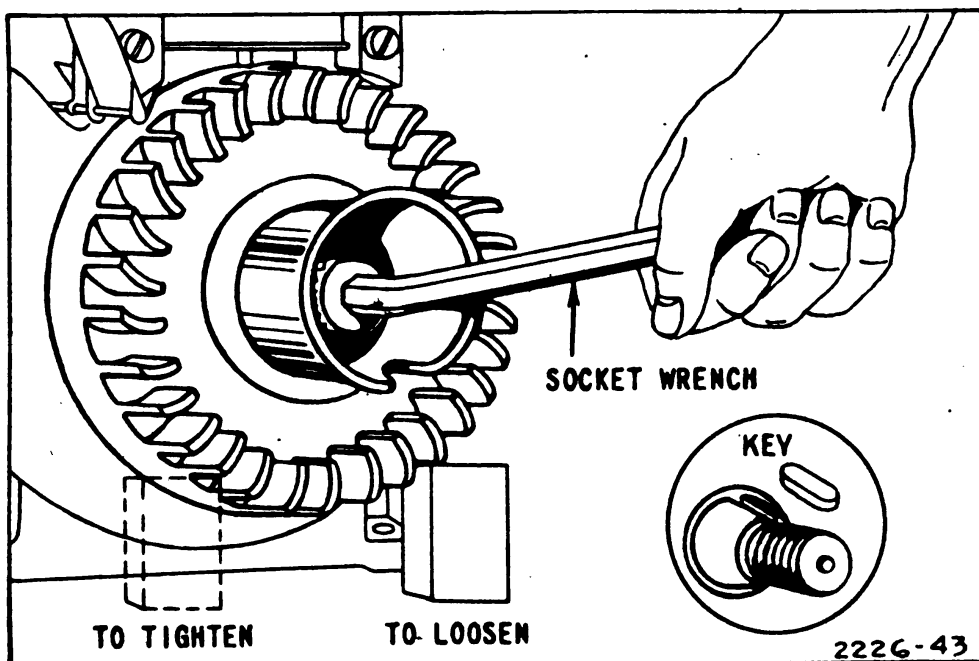

Figure 12.—Removing flywheel
b. Remove the blower housing. Bolt or clamp engine to work bench. Place a wood block under flywheel fin on right side of flywheel to hold it rigid and prevent turning as you loosen nut (fig. 12). To loosen and start nut to the *right*, tap end of wrench handle lightly with hammer. Remember that this is a left-hand thread and nut must be turned to the right. Tap carefully or a broken fin may result which will throw the flywheel out of balance. After the nut is removed, loosen flywheel by placing a wooden block against end of crankshaft and striking with a hammer. Pull off flywheel.